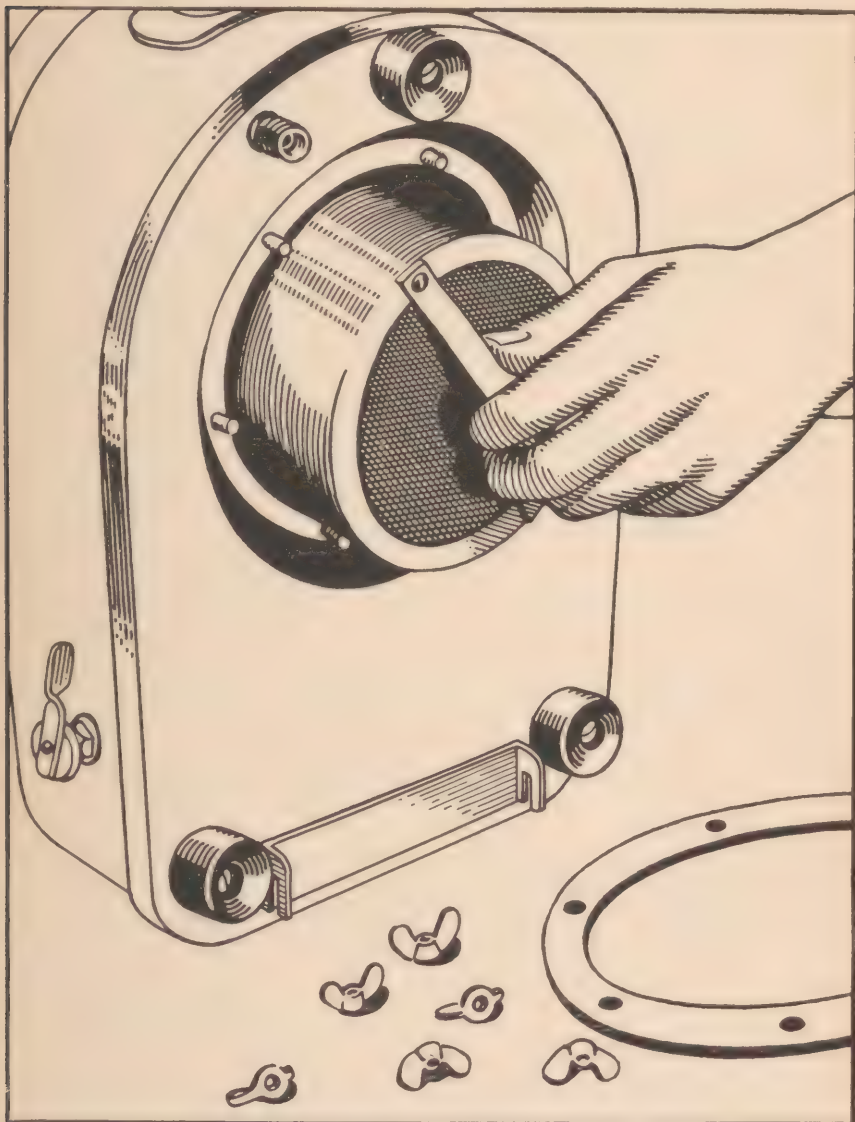

Figure 10. How to remove soda lime container.
b. If there is any reason to believe that a considerable amount of moisture has accumulated inside the apparatus, proceed as follows: (1) Loosen, but do not remove the six wing nuts on the bottom of the apparatus.
(2) Loosen the cover plate and place the apparatus on a level surface to drain.
(3) When the moisture has drained from the apparatus, lay it on its front edge.
d. Pull the soda lime container straight out. (See fig. 10.)